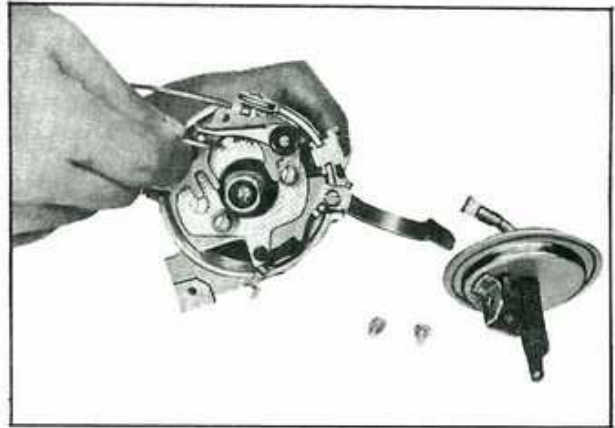

Fig. EE-90 Disassembly of Vacuum Controller
- (1) Take off cap and disconnect rotor head.
- (2) Take off vacuum controller (Fig. EE-90).
- (3) Take off contact breaker (Fig. EE-90).